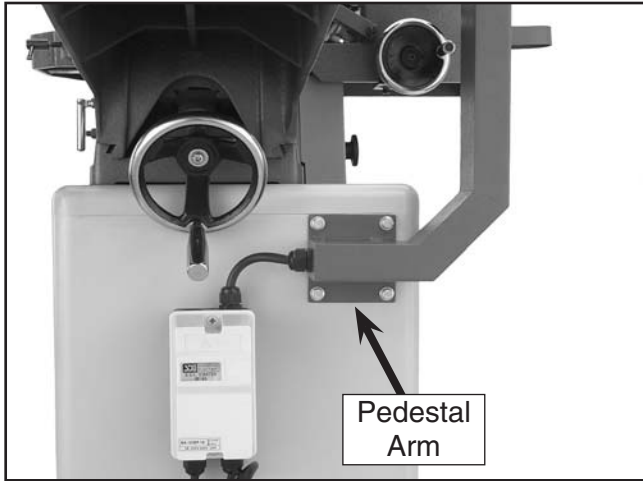

Figure 13. Correctly installed switch components.
- Secure the pedestal arm to the jointer stand with the hex bolts and flat washers, as shown in **Figure 13**.